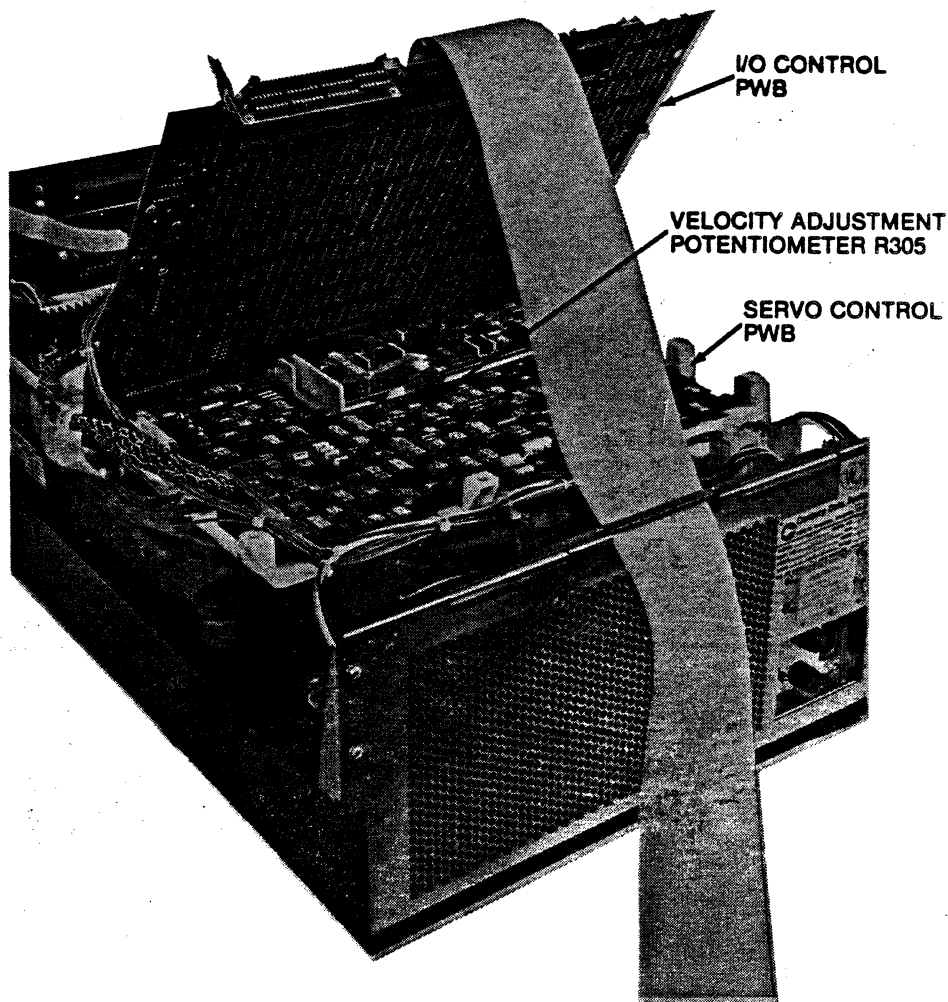

Figure 4-5. I/O PWB in Maintenance Position
- a. Pull up on the plunger-latches to release the I/O & Control PWB, lift and place PWB in the maintenance position. See Figure 4-5.